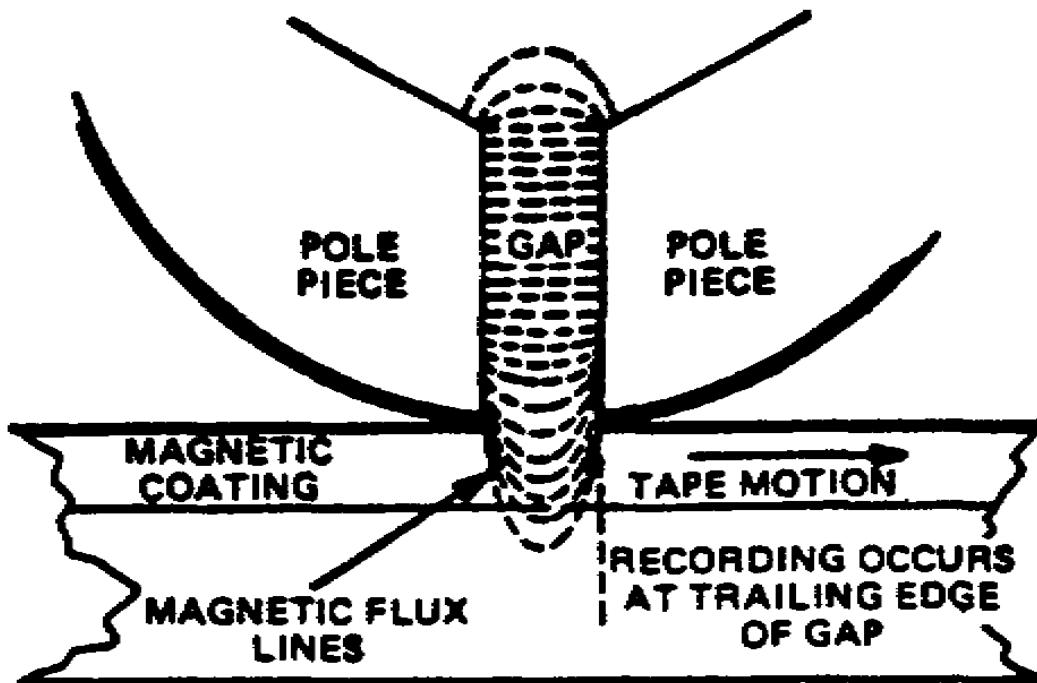

Figure 3-5. Flux lines in a recording gap
(4) Another feature of an AC erase head is a wider gap which permits the tape particles to change direction more times, thus giving a more complete erasure of the tape.
(5) Notice that as the tape approaches and then leaves the gap in the head, the erase action builds up from zero to maximum and back to zero. Thus, any magnetic pattern which was previously recorded is obliterated by the action of the high-frequency bias oscillator.
d. When an alternating current is sent through the winding of a record head, a magnetic field corresponding to the applied current is produced in the core (fig 3-5). The magnetic field has a great deal of difficulty passing through the nonmagnetic gap in the core. However, when the magnetic coating of the tape closes the gap, the field can easily complete its journey via the tape. The tape now becomes magnetized in accordance with the fluctuations of applied current.